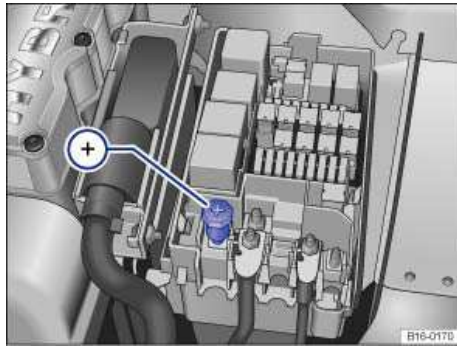

Fig. 188 In the engine compartment: Positive jump-start terminal +.
The positive jump-start terminal is in the engine compartment ⇒ fig. 188 \(+\). The vehicle can only jump-start other vehicles or be jump-started itself by using this terminal.
3. Attach one end of the *red* jumper cable to the **positive jump-start terminal** in the engine compartment ⇒ fig. 188 (+) ⇒ ⚠.
4. Attach the other end of the *red* jumper cable to the **positive terminal (+)** of the good battery (booster battery): (2).
5. Attach one end of the *black* jumper cable to the **negative terminal (-)** of the booster battery: (2) .
6. Attach the other end of the *black* jumper cable (3) to a **bare metal part of the vehicle with the dead battery**. This part should be connected directly to the engine block. You may also attach the cable to the engine block itself or to the towing eye installed on the front of the vehicle, *Towing*.